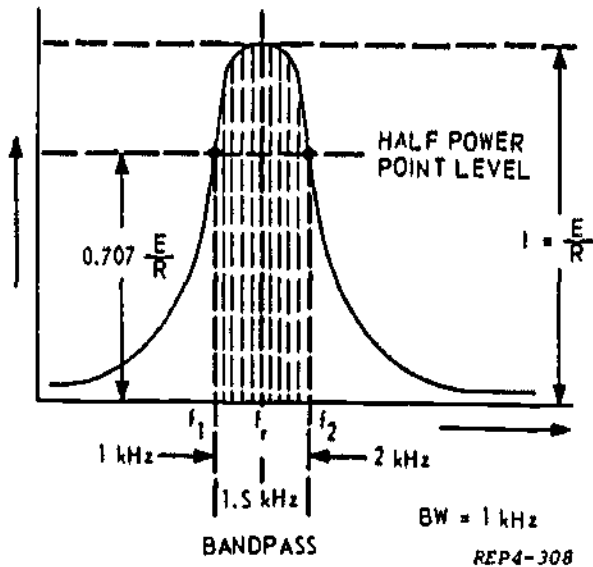

Figure 5-15
5-31. Refer to figure 5-15 and note the shape of the current curve of a typical series resonant circuit. From its peak at f_r , current drops off at frequencies above and below resonance. There are two points on the curve which are 70.7 percent of the peak current value. They are called HALF POWER POINTS. The frequency range between the half power points is called the BANDWIDTH (BW) of the resonant circuit.
5-32. The resonant frequency in figure 5-15 is 1.5 kHz; at this point current is maximum. Current falls to .707 of its maximum value at 1 kHz on the low side and 2 kHz on the high side. To determine the bandwidth, use the formula: $BW = f_2 - f_1$. The bandwidth in this case is 1 kHz.
5-33. Figure 5-15 also shows that current drops off rapidly when the frequency applied to the circuit is below 1 kHz or above 2